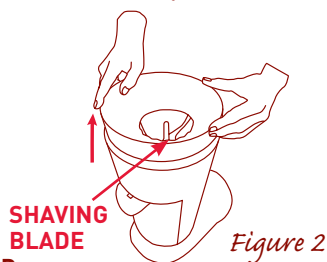

Figure 2
2. To remove the Ice Reservoir, grasp the reservoir with your hand, turn clockwise, and lift to remove (Figure 2).
Note the location of the Shaving Blade inside the Ice Hopper (Figure 2).